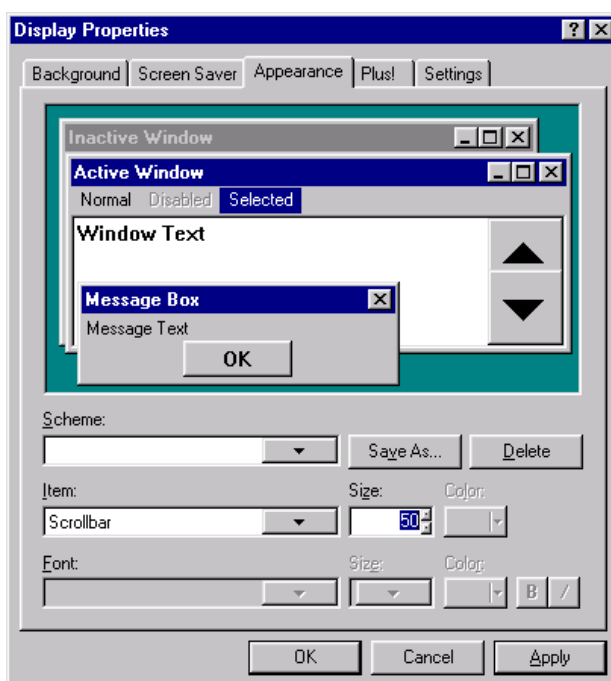

FIGURE 23. Display Properties Dialog, Scrollbar Settings
- 8.22 Touch the screen at the scrollbar 'Size' field, then use the keyboard arrow Up key to adjust the scrollbar size to a value of 50. See Figure 23.